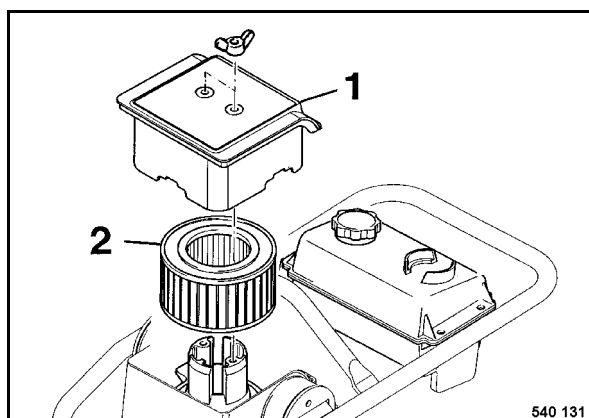

Fig. 56
- Remove cover 1 (Fig. 56), take filter cartridge (2) carefully out.